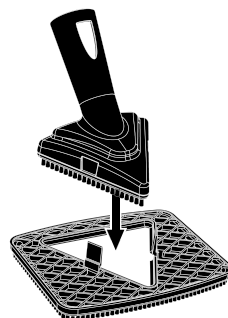

FIGURE 2
1. Place Large Brush over the Triangle Brush, and firmly press it on to the Triangle Brush until it snaps into place (See figure 2).